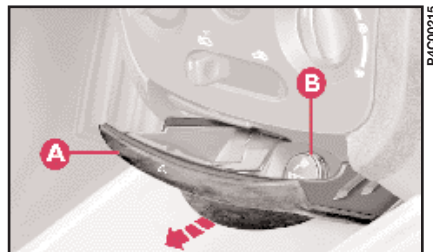

fig. 60
1) Open flap **A** (fig. 60) in the direction of the arrow to reach the cigar lighter and the ashtray.